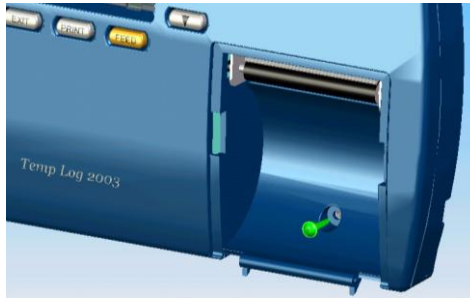

Figure 5: Securing the Unit to the Bracket
4. Fasten one screw through the hole under the paper roll to secure the CTR to the bracket, as shown in Figure 5.